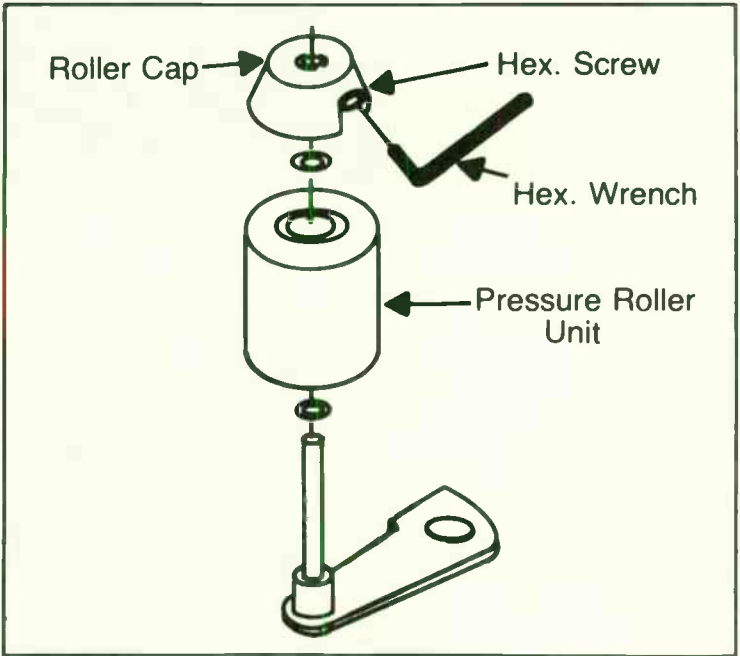

Fig. 10-14. Pressure roller replacement (courtesy of Magnavox).
(A) and lift the roller cap and pressure unit off. See Fig. 10-14. Make sure that the washers do not remain at the top and bottom of the removed roller. Reverse steps to reinstall the new part.